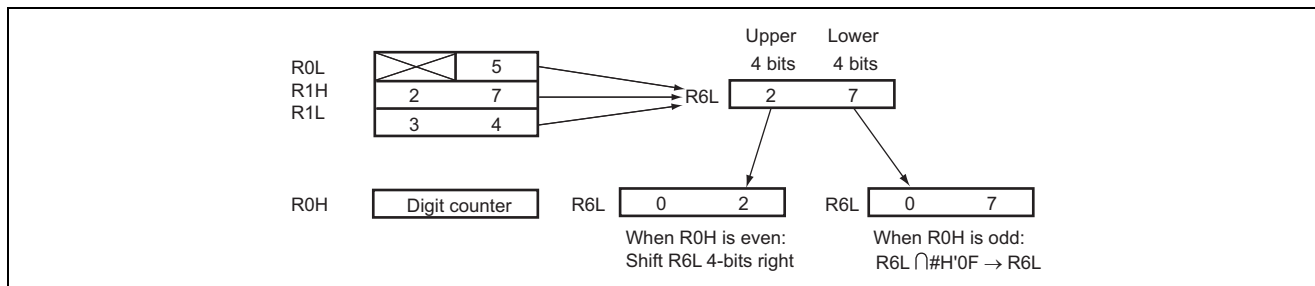

Figure 3 Dividing One Byte of Data in a General Register in Two
2. The processing of one digit (four bits) of input data is described below with reference to figure 3.